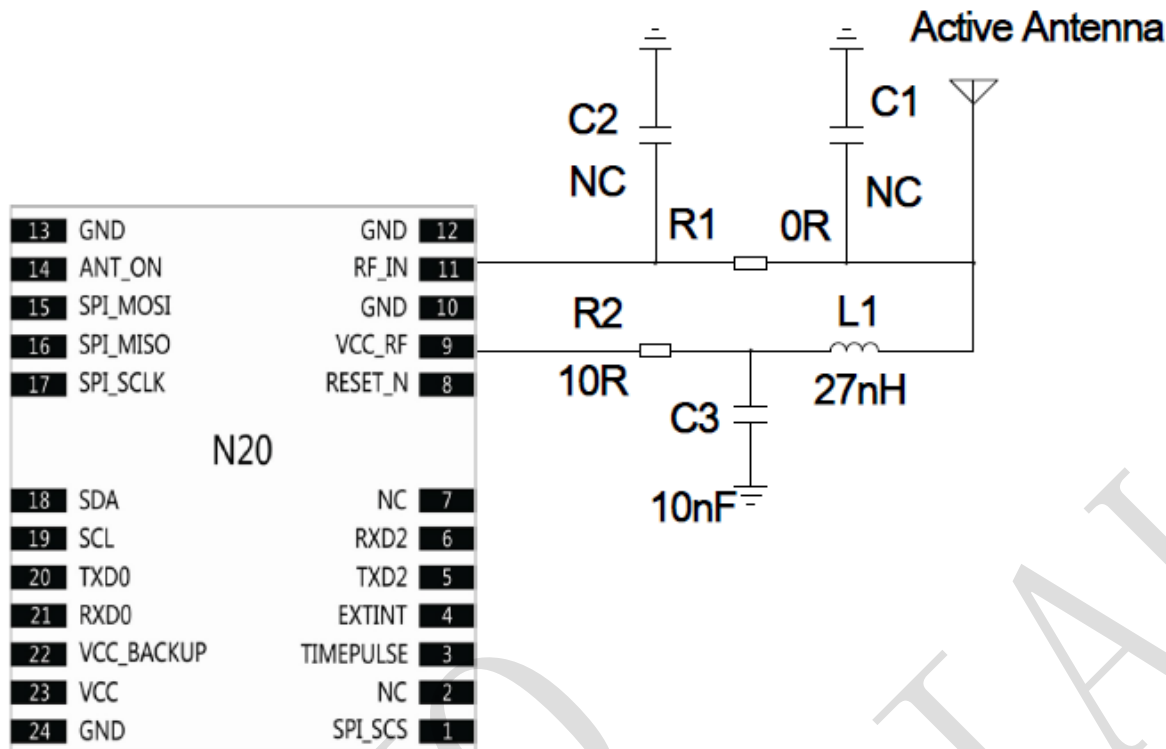

Figure 8 N20 Active antenna simplified design
- Usually Pin 9 VCC_RF is directly used for the active antenna power input, as shown in Figure 8. The voltage range is from 2.8V to 4.3V, typical value is 2.8V, and the max driver current is 100mA. If the VCC_RF voltage does not meet the requirements for powering the active antenna, an external LDO should be used. The inductor L1 is used to prevent the RF signal from leaking into the VCC_RF pin and route the bias supply to the active antenna, the recommended value of L1 is no less than 27nH. R2 can protect the whole circuit in case the active antenna is shorted to ground.